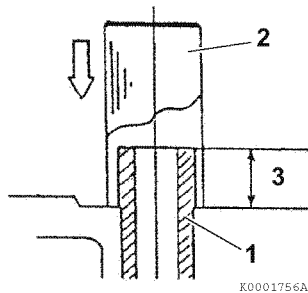

Figure 6-29
3. Finish installing the valve guides (Figure 6-29, (1)) into the cylinder head to the proper height (Figure 6-29, (3)) using the valve guide installation tool (Figure 6-29, (2)). See *Valve Guide Projection specification starting on page 6-5.*